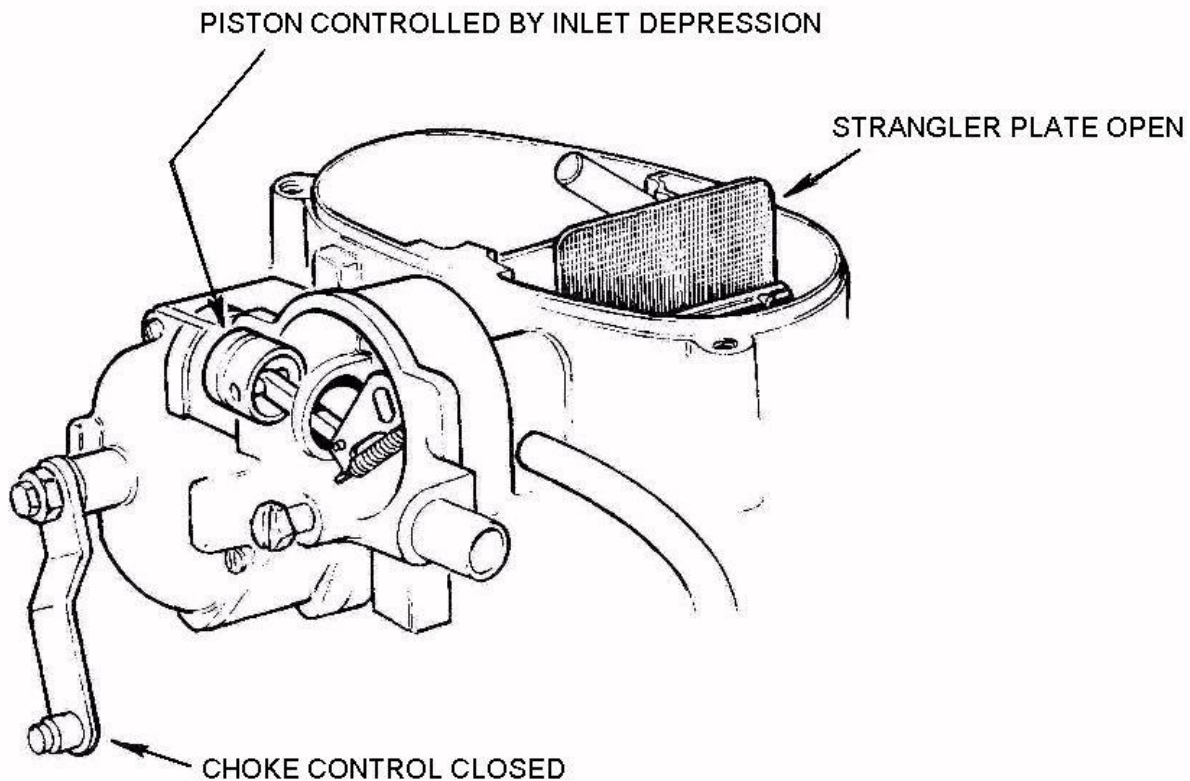

Fig. 17 - Throttle Open - Choke Closed.
3. Normal running of the engine (Fig. 17)